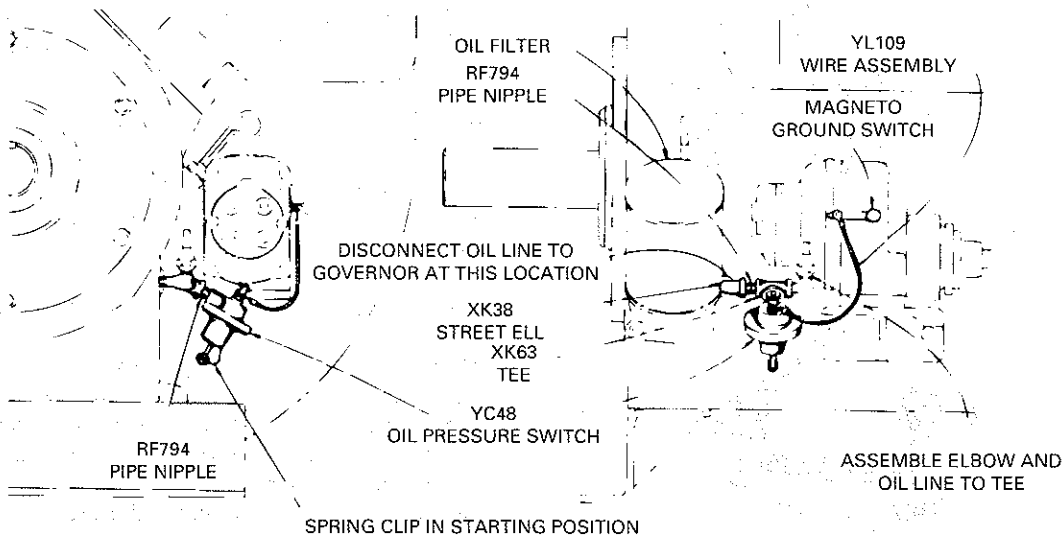

Fig. 3. Oil pressure switch mounting, with magneto ignition
For engines with magneto ignition, use a YC48S4 oil pressure switch kit. Mount switch as follows (see Fig. 3, page 21):
4. Mount other RF794 pipe nipple to center tap in tee. Attach oil pressure switch, YC48, to end of pipe nipple, as shown in Fig. 3.